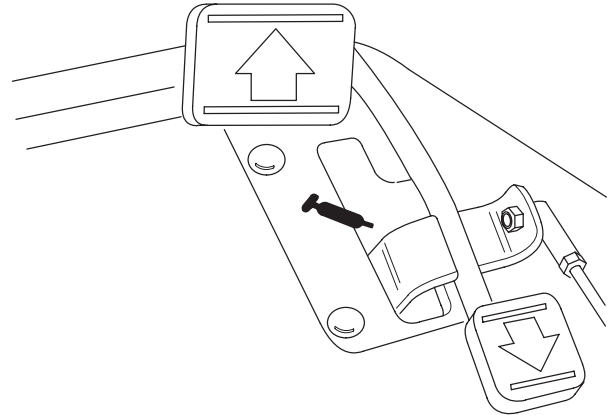

Figure 44
- Traction pedal pivot (1) (Fig. 44)